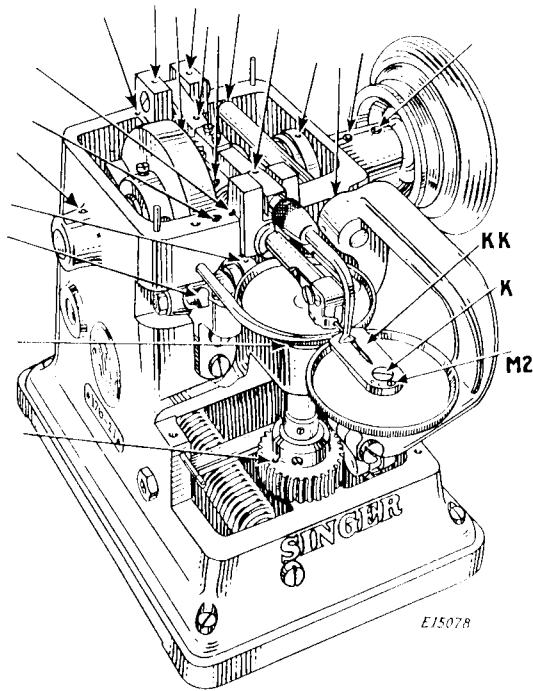

Fig. 3. Oiling Points at Front, Top and Left (Machines 176-21 and 176-22)
Remove the screw (M2, Fig. 3) and apply oil to the screw hole, after which replace the screw (M2).
Also apply oil to all of the oiling points indicated in Figs. 3, 4, 5 and 6, by the unlettered arrows.
Take out the screw (K, Fig. 3); remove the needle guide (KK, Fig. 3) and remove any foreign matter which may have accumulated beneath the needle guide. When replacing the guide (KK) make sure that the guide is set to insure that the needle centers in the needle groove in this guide, then firmly tighten screw (K).